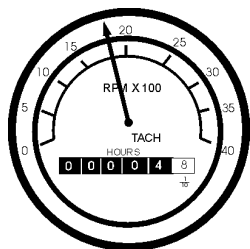

Figure 56. Engine Tachometer Gauge
16. The **tachometer gauge** (Figure 56) will indicate the speed of the engine when the generator is operating. Under normal operating conditions this speed is approximately 1800 RPM's.